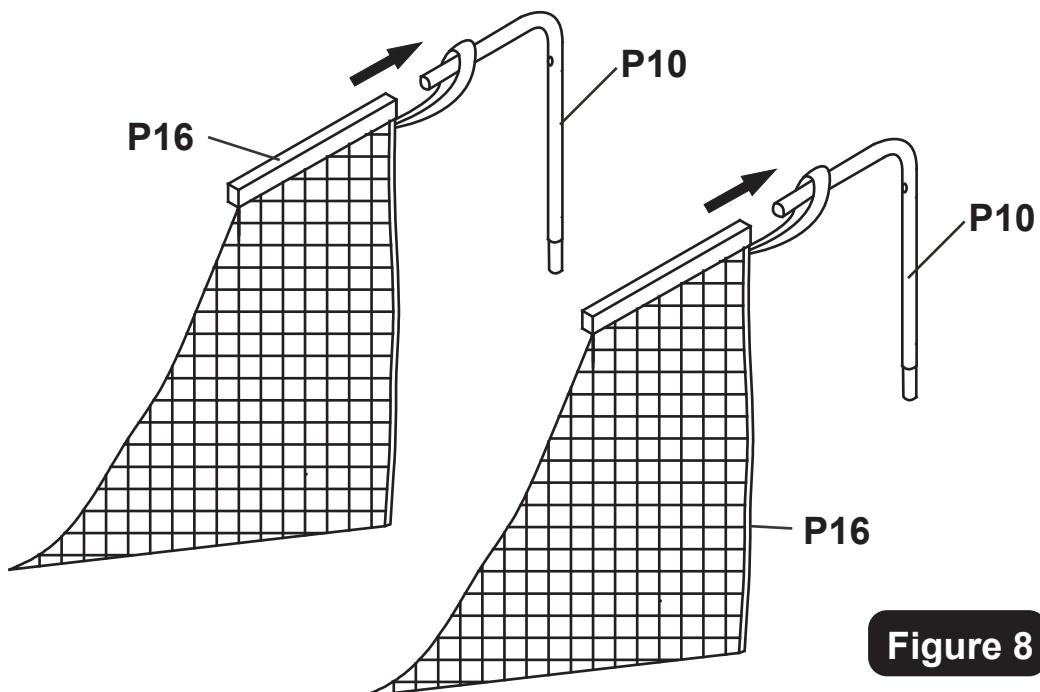

Figure 8
10. Slide elastic straps and sleeve of **P16** Ramp Net onto **P10** Top Tubes as shown in **Figure 8**.